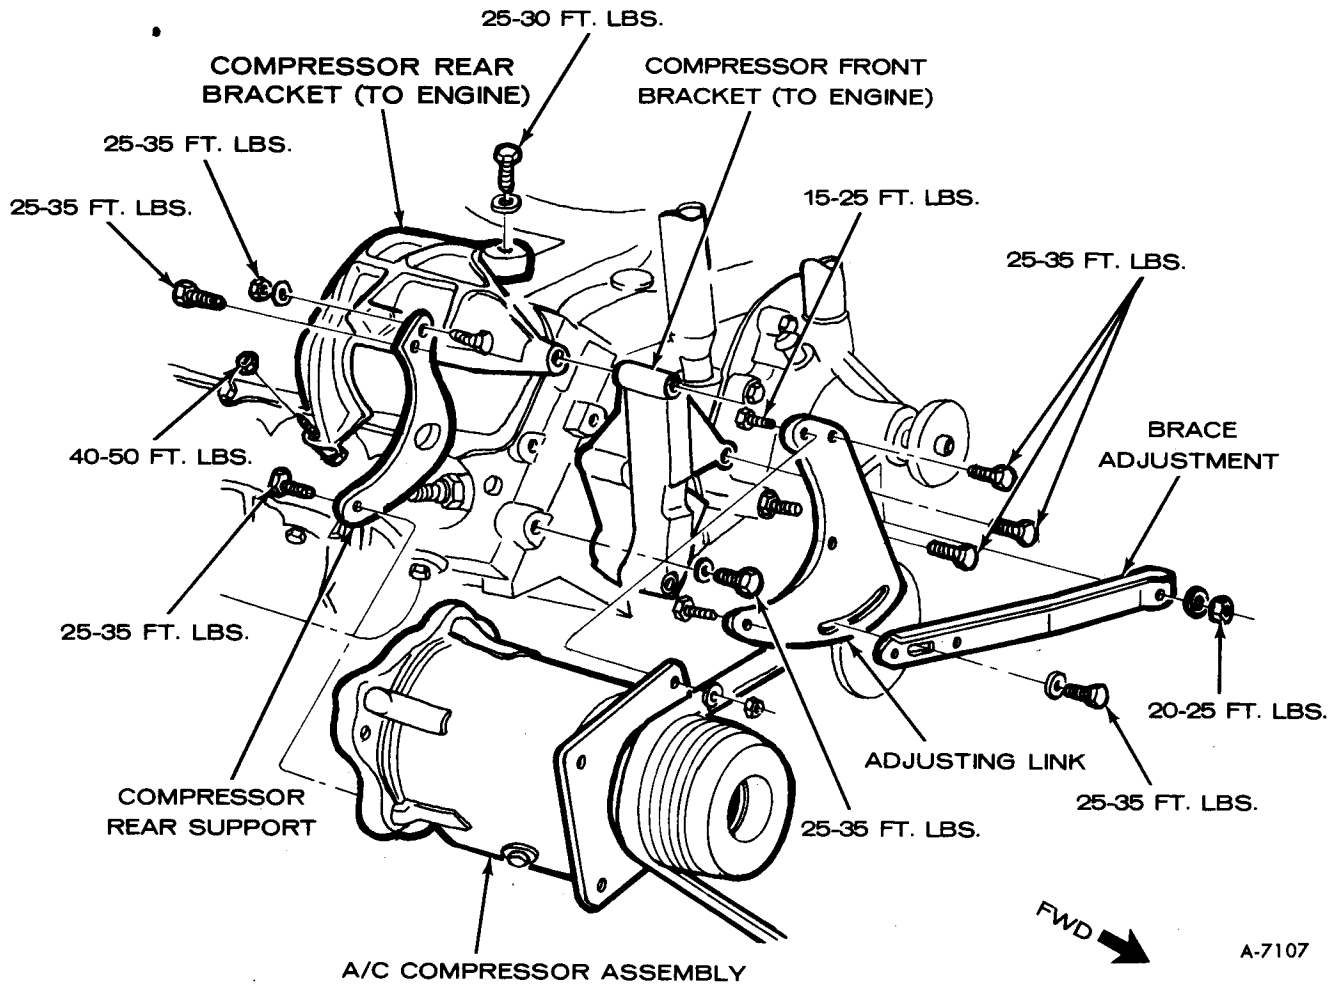

Figure 60—Air Conditioning Compressor Mounting
6. After the A/C system is completely depressurized, very slowly loosen bolt which retains high and low pressure line fitting assembly to compressor rear head (refer to figure 60). As bolt is being loosened, carefully work fitting assembly back and forth to break seal, and bleed off any remaining pressure before removing the mounting bolt completely.
10. Disconnect hose holding clamp at clamp mounting bracket (compressor front bracket). Refer to figure 60.
11. Remove bolt securing support strut at compressor rear head (figure 60). Loosen bolt securing other end of strut to engine, and move strut out of way, leaving attached to engine.
support bracket to compressor mounting bracket (figure 60).
14. At compressor front head remove bolt and nut (lower fastener) and stud nut (upper fastener) securing compressor bracket to the mounting bracket (figure 60). Stud will remain in engine mounting bracket. Compressor may now be removed from vehicle.